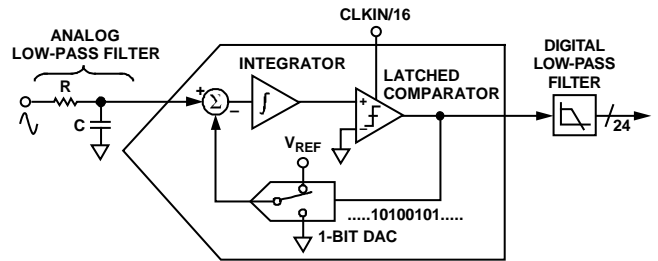

Figure 31. First-Order  $\Sigma$ - $\Delta$  ADC
For simplicity, the block diagram in Figure 31 shows a first-order  $\Sigma$ - $\Delta$  ADC. The converter is composed of the  $\Sigma$ - $\Delta$  modulator and the digital low-pass filter.
Figure 31 shows an analog low-pass filter (RC) on the input to the ADC. This filter is placed outside the ADE7854A/ADE7858A/ADE7868A/ADE7878A; its role is to prevent aliasing. Aliasing is an artifact of all sampled systems, as shown in Figure 33. Aliasing means that frequency components in the input signal to the ADC, which are higher than half the sampling rate of the ADC, appear in the sampled signal at a frequency below half the sampling rate. Frequency components above half the sampling frequency (also known as the Nyquist frequency, that is, 512 kHz) are imaged or folded back down below 512 kHz. This happens with all ADCs regardless of the architecture. In the example shown, only frequencies near the sampling frequency, that is, 1.024 MHz, move into